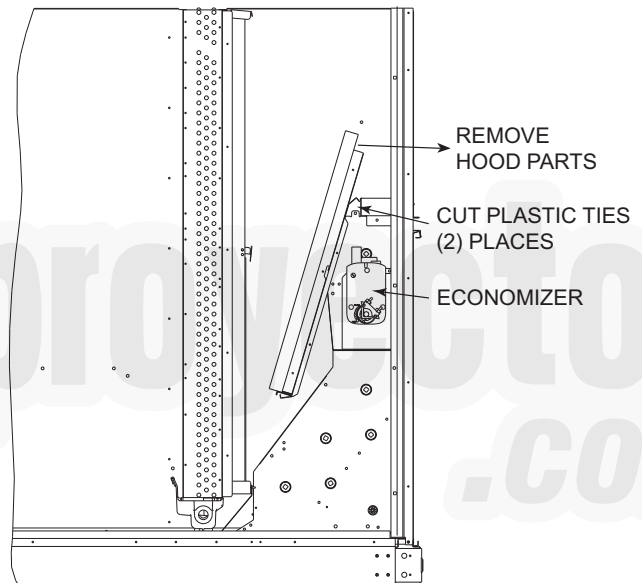

Fig. 14 — Economizer Wiring
2. Locate and cut the (2) plastic tie-wraps, being careful not to damage any wiring. (See Fig. 14.)